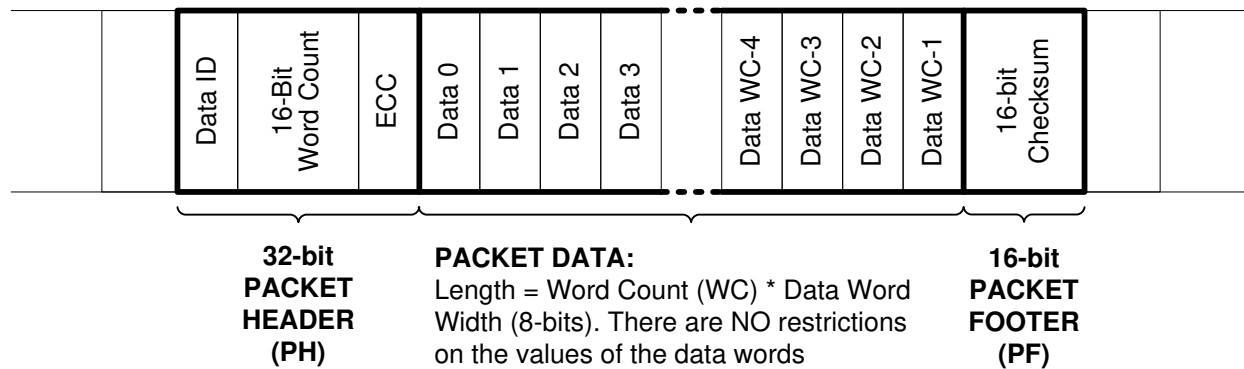

Figure 5-8. CSI-2 Long Packet Structure
A long packet consists of three elements: a 32-bit packet header (PH), an application-specific data payload with a variable number of 8-bit data words, and a 16-bit packet footer (PF). The packet header is further composed of three elements: an 8-bit data identifier, a 16-bit word count field, and an 8-bit ECC. The packet footer has one element, a 16-bit checksum. Figure 5-8 shows the structure of a long packet.